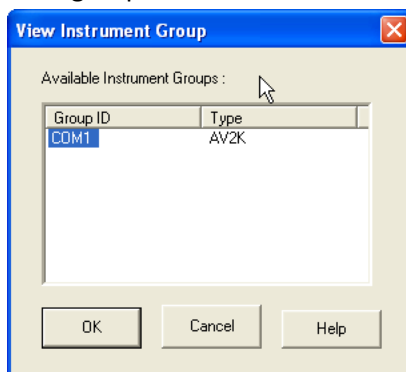

Figure 6: View Instrument Group Window
7. Open the **View Instrument Group** window (if it is not already open) by clicking **View Instrument** from the Main menu and selecting the desired instrument group from the list box. Refer to Figure 6.